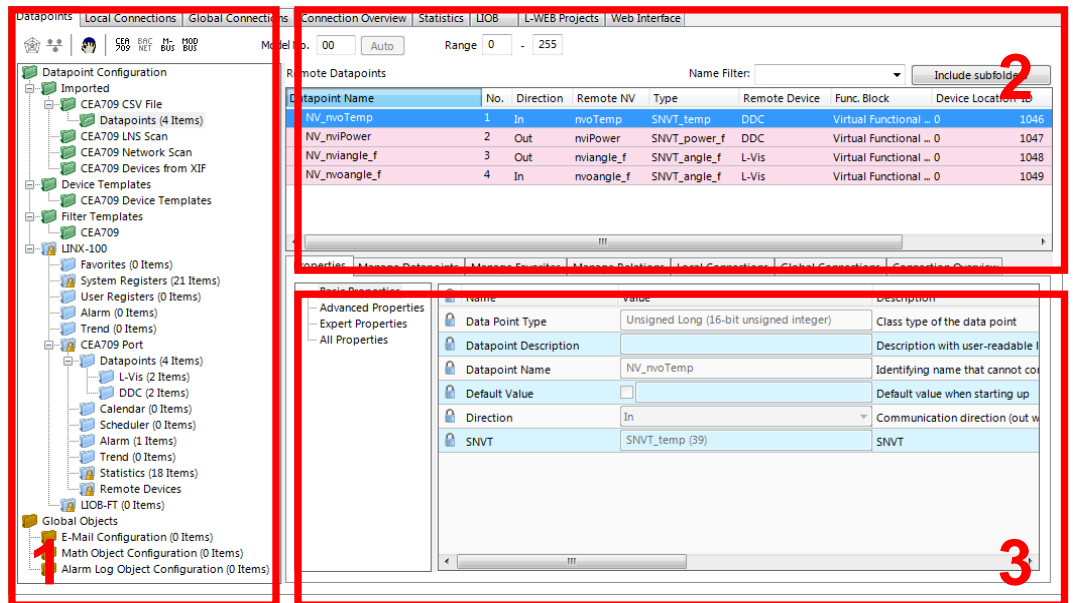

Figure 142: Data Point Manager Dialog.
The Configurator uses a central concept to manage data points. The data point manager is located on the **Datapoints** tab as shown in Figure 142. It is used to select, create, edit and delete data points. The dialog is divided into three sections:
- The folder list (number 1 in Figure 142),
- The data point list (number 2 in Figure 142),
- And a property view (number 3 in Figure 142).